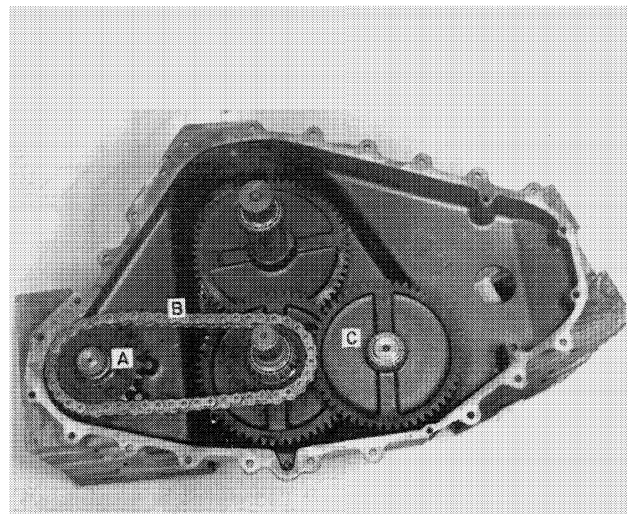

FIGURE 2-36
3. Lift out the attachment drive shaft assembly, A, Figure 2-36, to remove the roller chain, B.
4. Lift out the primary drive shaft and gear assembly, C, Figure 2-36.